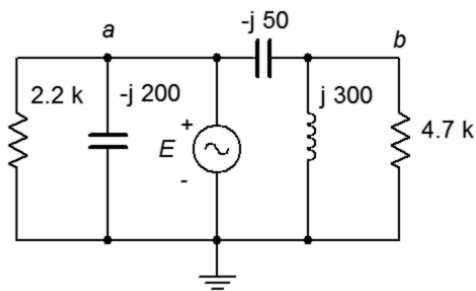

Figure 4.12
17. For the circuit of Figure 4.12, determine voltages v_{ab} and v_b if the source is 100 volts peak.
18. For the circuit of Figure 4.12, determine the currents through the two resistors.